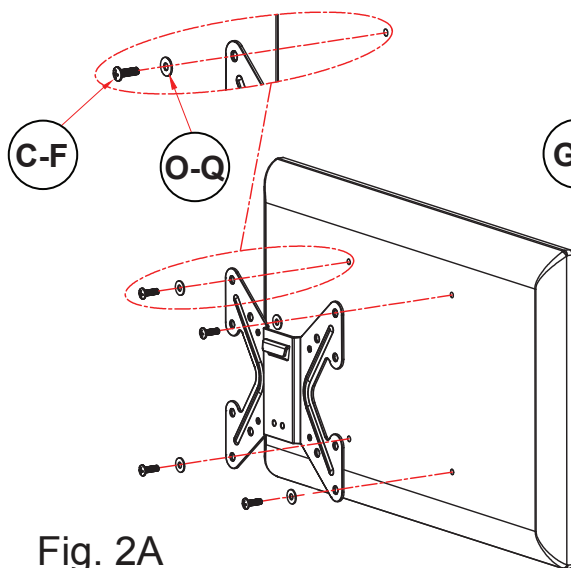

Fig. 2A
Use the selected bolts (C-J) and the washers (O-Q) to install the TV Plate (2) to the rear of the TV as shown below in Fig. 2A. Tighten securely using the Allen wrench (R). Do not overtighten.